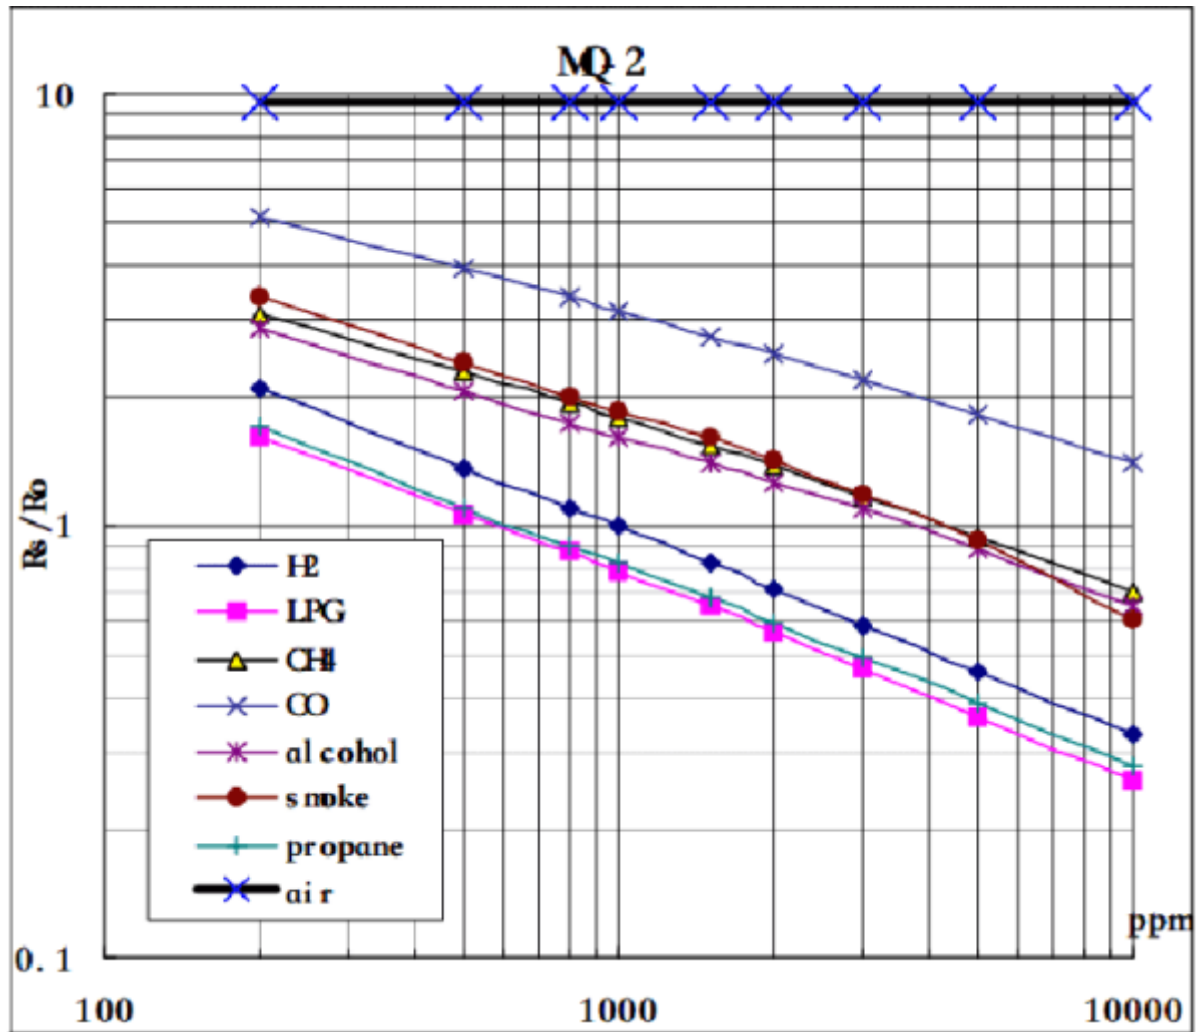

Figure 2.5 MQ2 Sensitivity characteristics. Source:
The MQ-2 sensor functions as a voltage divider. The analog voltage output varies accordingly with the concentration of combustible gasses and its interaction with the oxygen, thus yielding a higher voltage proportional to the quantity of the present gas. The sensor cannot determine which gas is present, however the interaction with any of the possible measurable gasses creates a distinct pattern that has been provided by the manufacturers, shown in Figure 2.5. By creating a code that follows the guidelines set by the manufacturer design we can then measure with a small margin of error, the concentration of distinct types of gasses in the air simply by analyzing the resistance ratio of the sensor (R_S/R_0).²⁾
- Specified in Figure 2.5 and in the specifications of the manufacturer, the sensor can only read gas concentrations between 200 and 10000ppm.